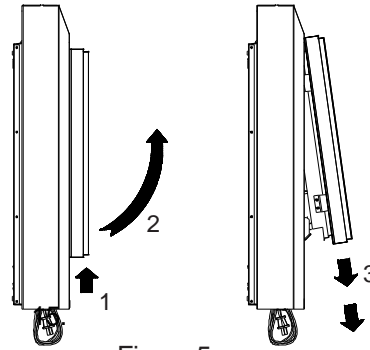

Figure 5
11. Remove glass assembly (Figure 5).
2. Remove glass assembly as shown in figure 5.